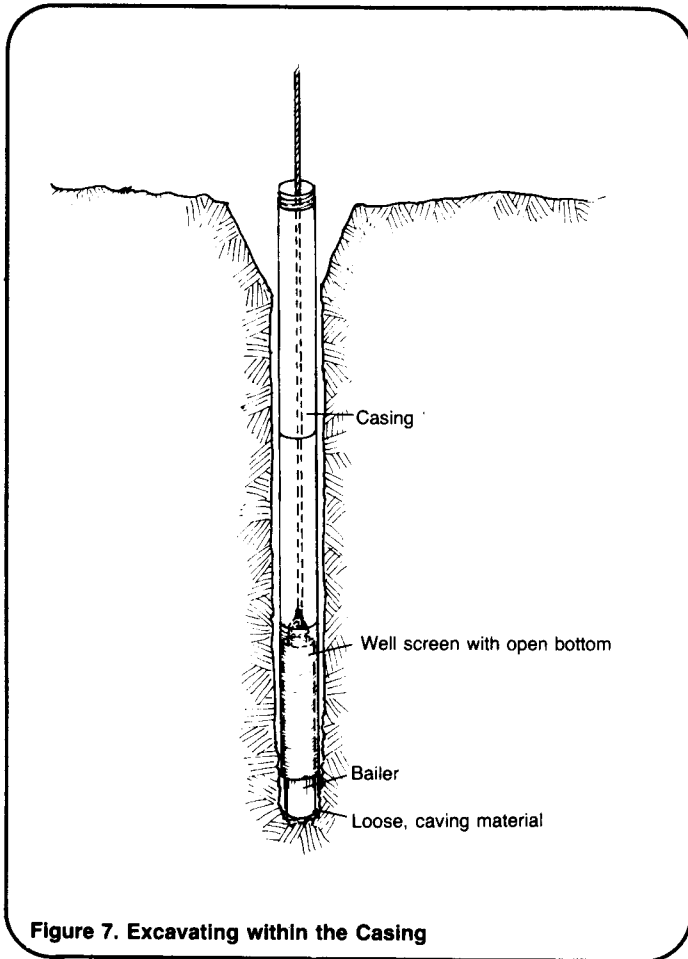

Figure 7. Excavating within the Casing
11. When you encounter a caving formation, as will be the case with most aquifers, remove the bit or bailer from the shaft. Lower the well screen, with the bottom end open, and sections of casing into the shaft. Attach the bailer to the rope, lower it inside the casing, and continue excavating. The screen and casing material should sink as the loose, aquifer material is removed. Add more sections of casing as necessary. See Figure 7.